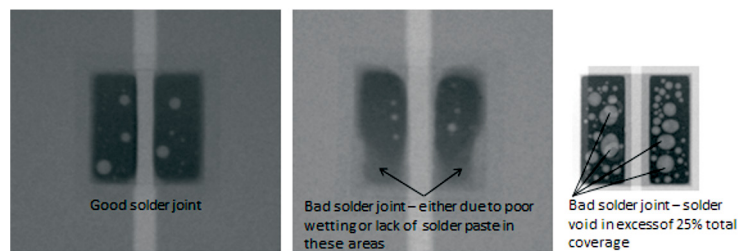

Figure 25: Example of good and bad x-ray result on a two pad LED emitter.
1. Solder voids (Figure 25) — perform x-ray inspection. Keep solder void to less than 25% coverage of the pad area as recommended by IPC-A-610 “Acceptability of Electronic Assemblies” document)